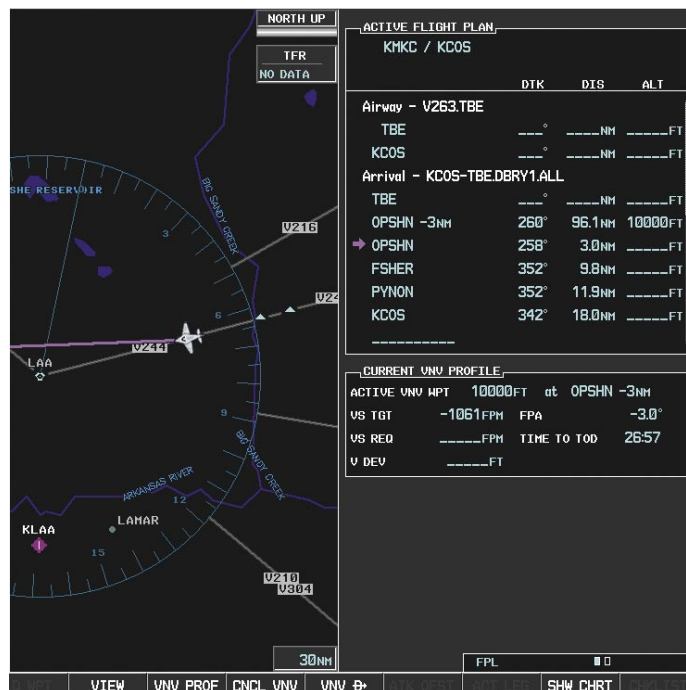

Figure 5-109 Direct-to Active
- h) Press the **ENT** Key twice to activate the direct-to. Note, in Figure 5-109, the magenta Map Pointer indicating the direct-to OPSHN after the offset waypoint for OPSHN. The preceding offset waypoint indicates the offset distance and altitude that was previously entered. The remaining waypoints in the loaded arrival procedure have no database specified altitudes, therefore, dashes are displayed. Keep the CDI centered and maintain a track along the magenta line to OPSHN.
- 'SELECT APPROACH' should be highlighted as shown in Figure 5-109.